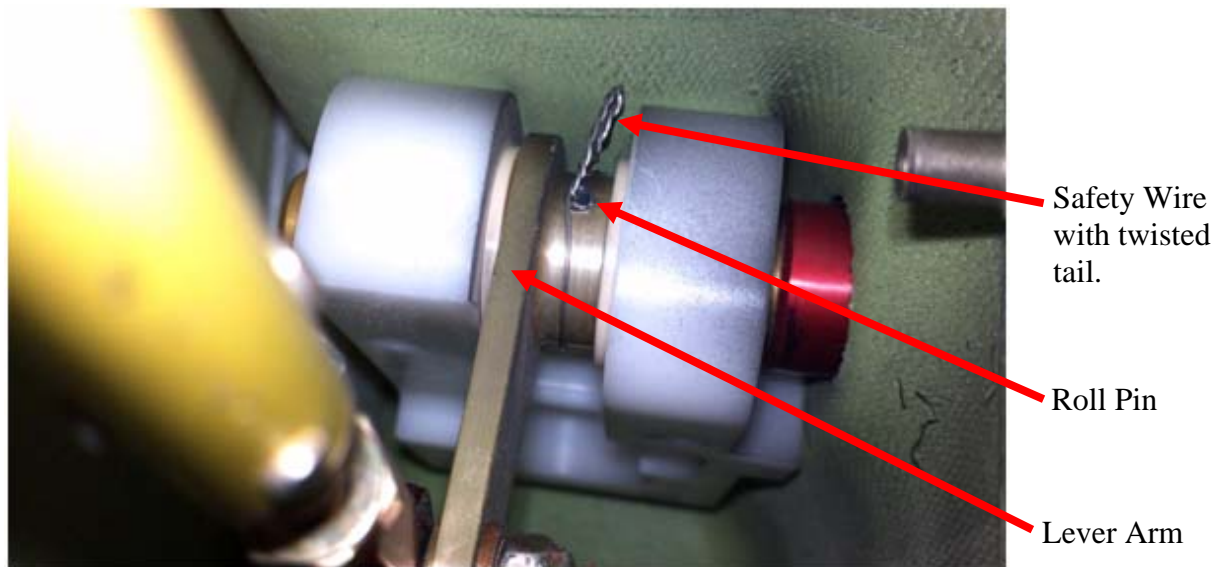

Figure 5-3: Safety Wire Installation
2. Using 0.032" safety wire, secure the roll pin to the lever arm by installing the safety wire through the roll pin and around the shoulder of the lever arm. Using standard industry practices, secure the safety wire into position with a twisted tail. Refer to **Figure 5-3** for further details.